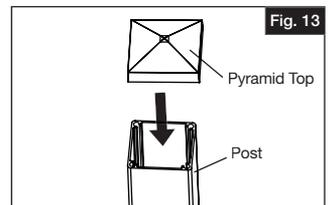

Fig. 13
- Install pyramid post top onto each post (Fig. 13).
Install pyramid post top onto each post (Fig. 13).